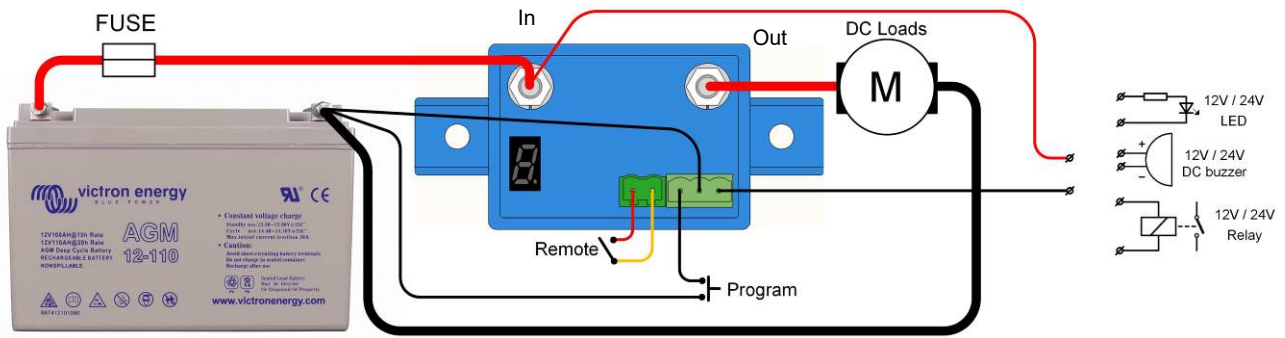

Figure 1: Connection diagram of the BP-65
8. A remote on-off switch can be connected to the two pole connector (see figure 1) or between pin 2-1 of the two pole connector and the battery plus.
9. A buzzer, LED or relay can be connected between the alarm output and the battery plus (see figure 1). Maximum load on the alarm output: 50 mA (short circuit proof).